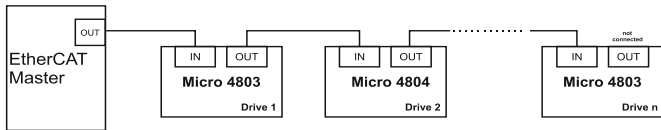

Figure 3-72 EtherCAT network linear topology
- Figure 3-72 for a visual representation of the linear topology.